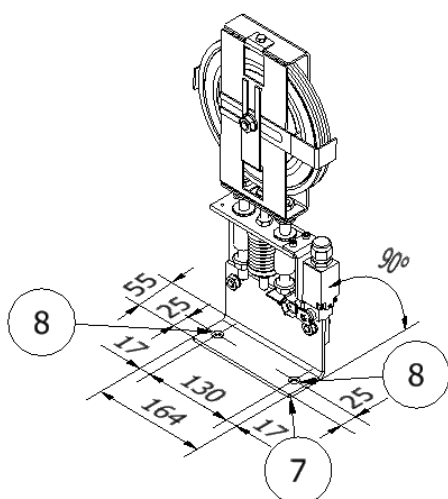

Fig. 2
- Il fissaggio a pavimento avviene tramite le asole (8) della piastra (7) vedi (Fig. 2),
- The fixing to the floor takes place through the slots (8) of the plate (7) see (Fig. 2), the floor and the support must resist a pulling force adequate to the work force and must ensure a 90 ° alignment of the rope to the floor.